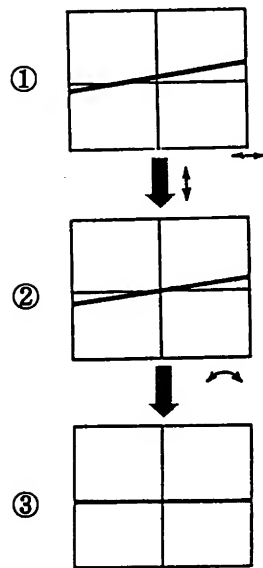

Figure 3-2. Trace Rotation
If the trace is not in parallel with the graticule as shown in Figure 3-2 ①, move the trace to the center of graticule with Horizontal and Vertical COARSE and FINE knobs. (Figure 3-2 ②)
The adjustment is complete if the trace is in parallel with the horizontal graticule. (Figure 3-2 ③)